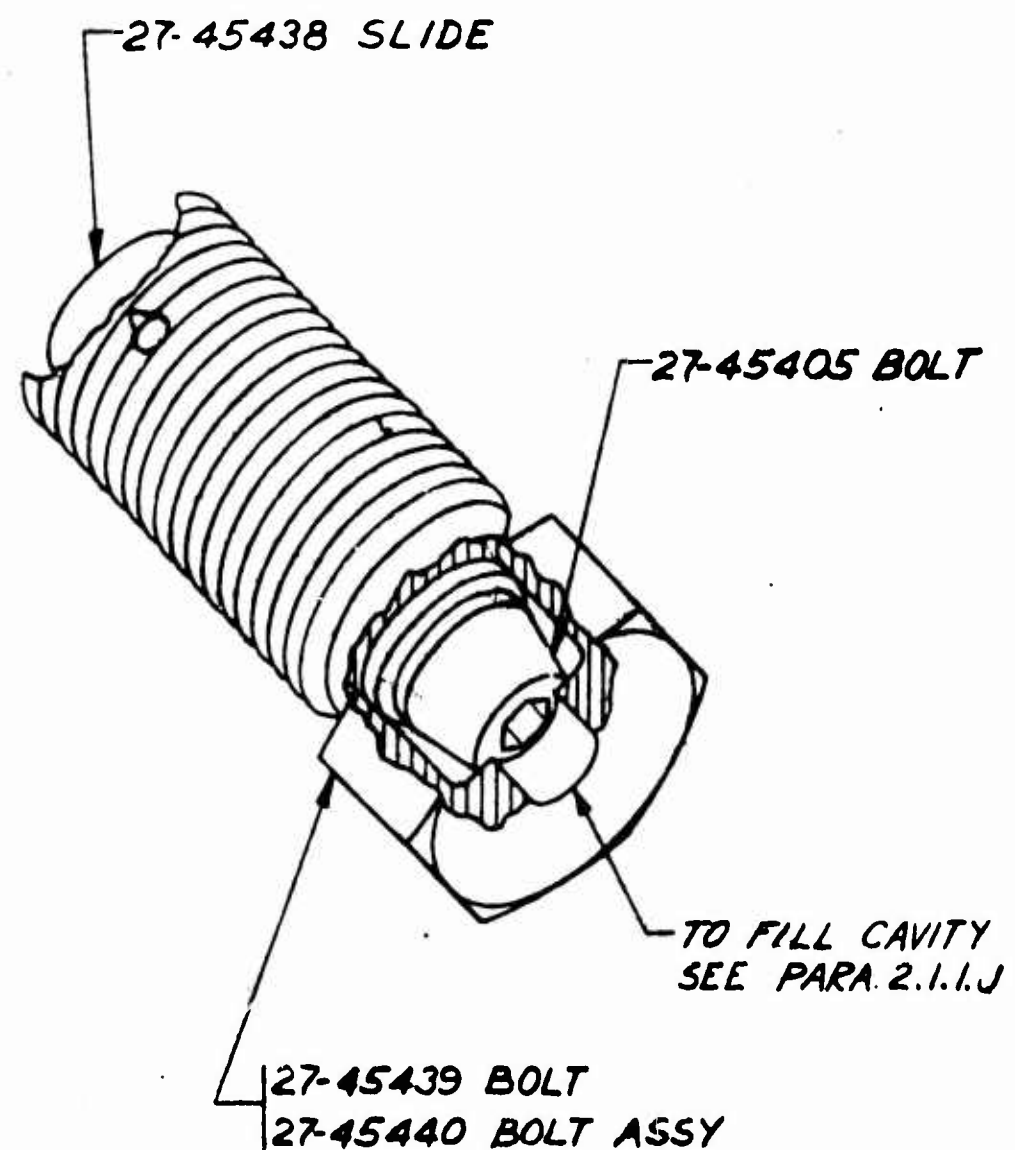

FIGURE 3
- e. Remove the 27-45440 bolt assembly and adjust the 27-45438 slide to its fully retracted position inside the 27-45439 bolt by turning the 27-45405 bolt clockwise (See Fig. 3).
- j. Completely fill the wrench recess in the 27-45439 bolt with glyptal cement (CVA material No. 27304) (See Fig.3).